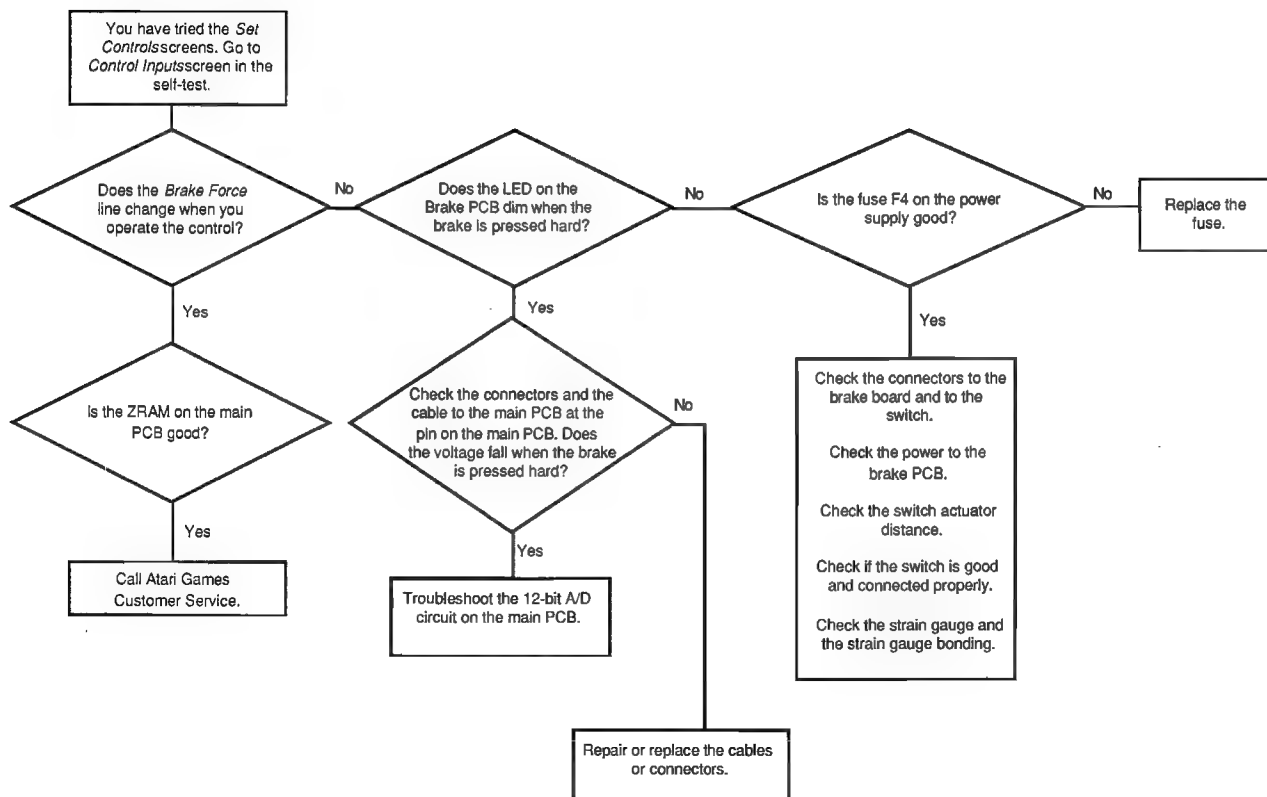

Figure 3-9 Brake is Not Working or Working Erratically and You Have Tried the *Set Controls* Screens
The brake may not function for several reasons. Before you do any repairs, always perform the *Set Controls* screens in the self-test; then try the brake to see if this corrects the problem. If not, then follow the flowchart in Figure 3-9. The test procedures mentioned in the flowchart are explained below.
If the brake is not working at all, you should check the following. (Check the flowchart in Figure 3-9.)
Before you replace the brake switch, do the *Set Controls* screens in the self-test, follow the flowchart in Figure 3-9, and the steps under *Repairing the Brake*. If you are sure that the problem is the switch, do the following procedure.
Before you replace the strain gauge, do the *Set Controls* screens in the self-test, follow the flowchart in Figure 3-9, and the steps under *Repairing the Brake*. If you are sure that the problem is the strain gauge or the bonding, do the following procedure.
Does not return to rest position.	<ol style="list-style-type: none"> 1. Is the gas pedal lubricated? Follow the procedure under Lubricating the Gas Pedal. 2. Check the pulley cable. 3. Check for a broken extension spring, shown in Figure 3-9.
2. Lay the pedal assembly on the bench, with the extension spring pointing up at the back. See Figure 3-9 for an illustration of the pedal.